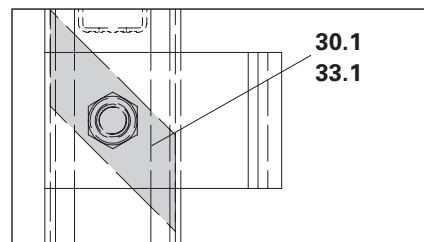

Fig. A6.09a
7. Secure the ladder to ladder connectors with the clamping plates (**33.1**). (Fig. A6.09a)
- Is the contact surface of the clamping plates (**30.1/33.1**) in contact with the ladder profile? (Fig. A6.09a)